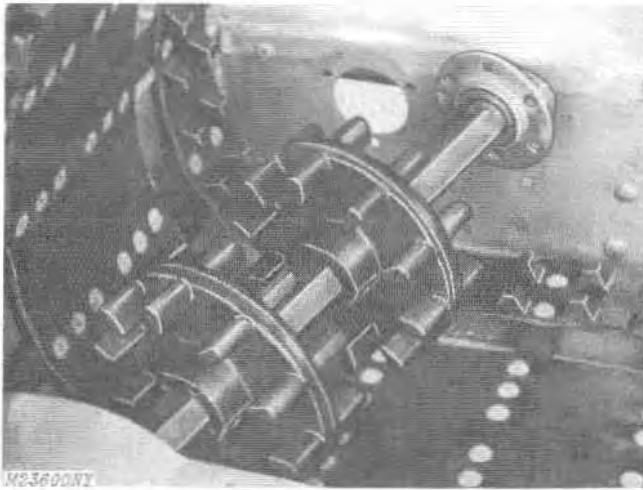

Fig. 3-Removing Drive Shaft
7. Move drive shaft toward chain case side. Lift end with spacer to remove shaft, Fig. 3.